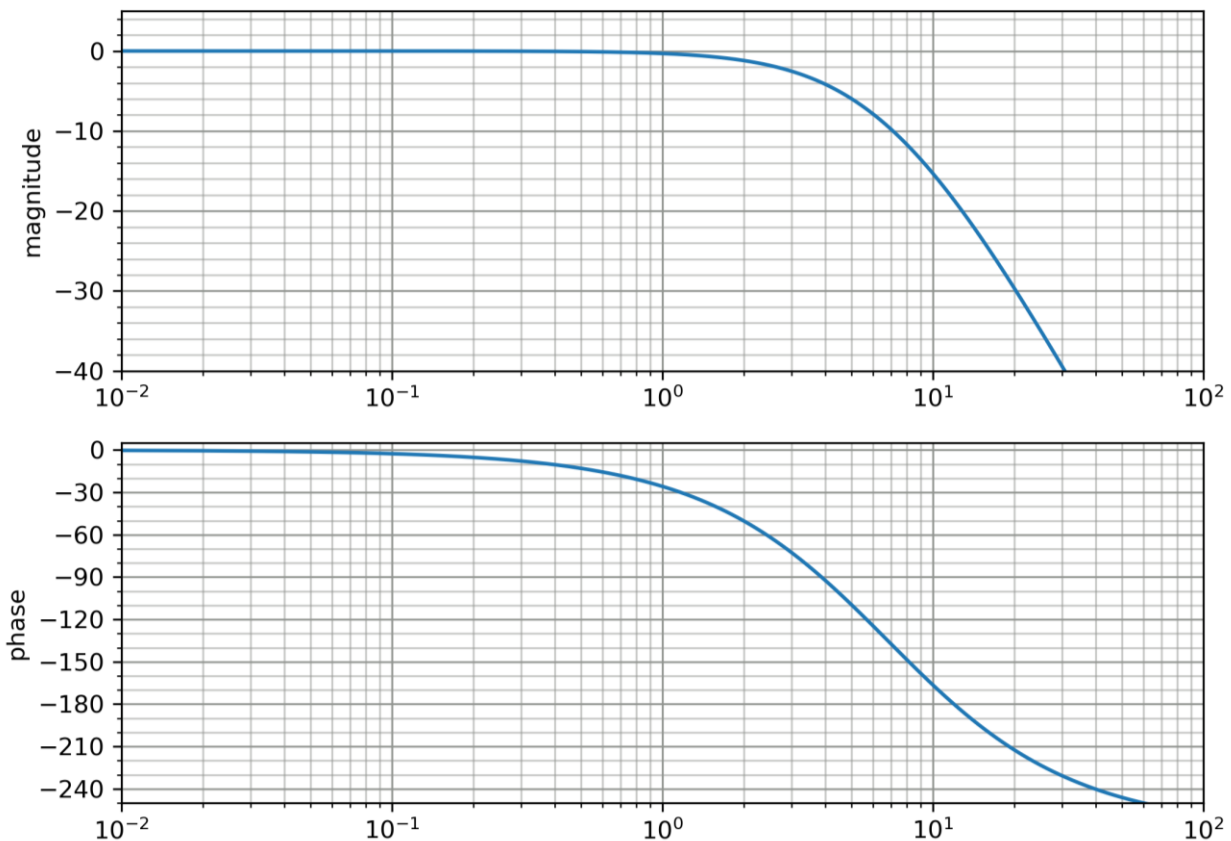

Figure 4.A: Bode plot of $G(s)$
A) [5 marks] Figure 4.B provides a template for an inverse Nichols chart. Sketch the frequency response shown in figure 4.A on that chart, labelling the points that correspond to the following frequencies: